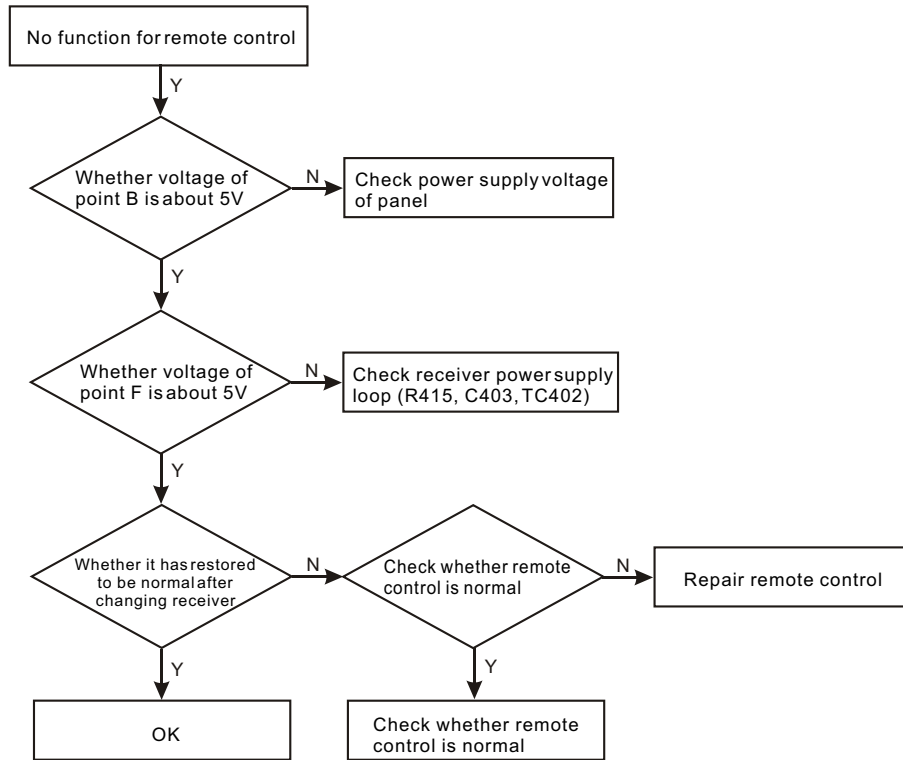

Figure 3.2.15.4 Troubleshooting flow chart for "No function for remote control"
(4) Troubleshooting process for "No screen display" is shown as the figure 3.2.15.4: